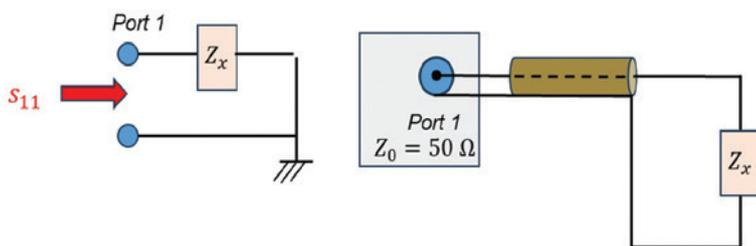

Figure 1: One-port shunt configuration
*Note:* The one-port shunt method is also called a (one-port) reflection method [1]. One-port configuration for a two-terminal DUT is shown in Figure 1.